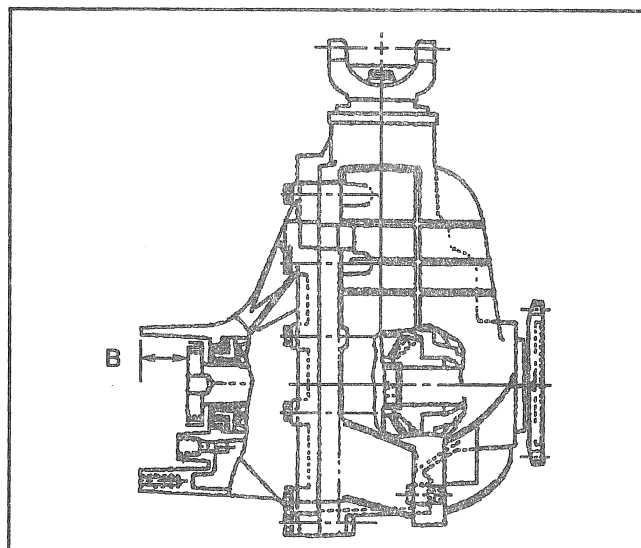

Figure 46—Measuring to Calculate Shim Size-Carrier Case
3. Measure dimension "B." (Figure 46 and 48)